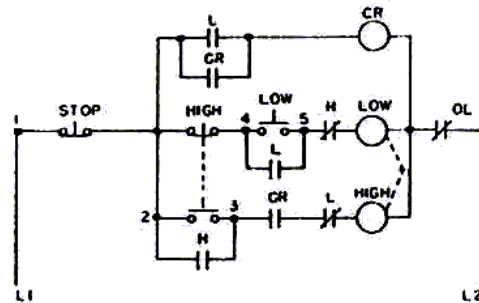

Fig. 34 Two speed magnetic starter.
22. Two speed motor starters (Fig.34)